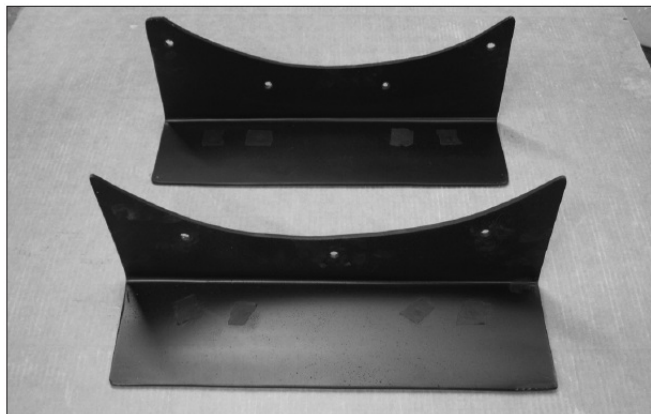

FIG. 2
Note: The two Yoke Landing Pads have four (4) attachment holes and the single Flume to Flume Landing Pad has three (3) attachment holes. (See Figure 2)